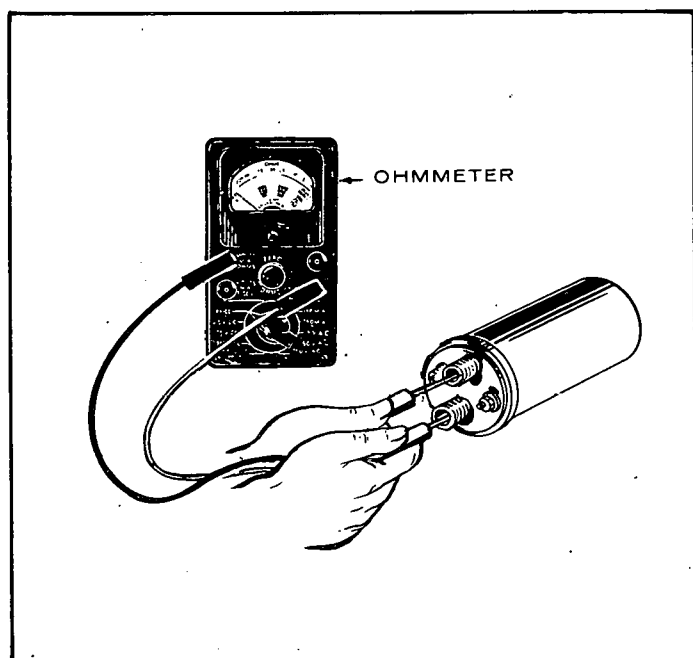

FIGURE 23. COIL TEST
3. Change resistance setting on ohmmeter. Place ohmmeter leads inside of spark plug cable holes (Figure 23). Secondary resistance should read 14,000 ($\pm 10\%$) ohms @ 70°F.